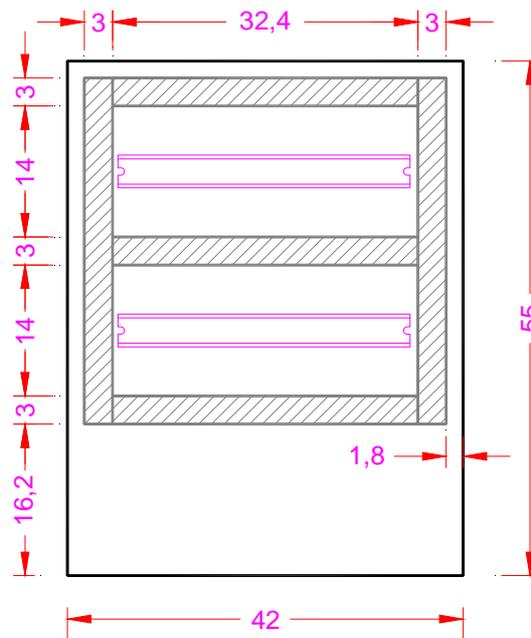

Fig. 1.1 The power circuit diagram for a direct on line starter
1. Using the wooden board, wiring ducts and mounting rails, assemble and arrange the control board as shown in figure 1.1.